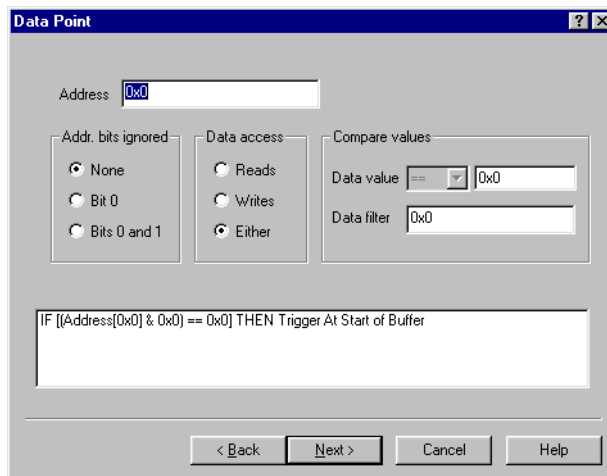

Figure 5-14 Data Point dialog box
1. In the Resource selection dialog box, select **Data Range** from the Resource drop-down list. Click **Next**. The Data point dialog box is displayed (Figure 5-14 on page 5-28).